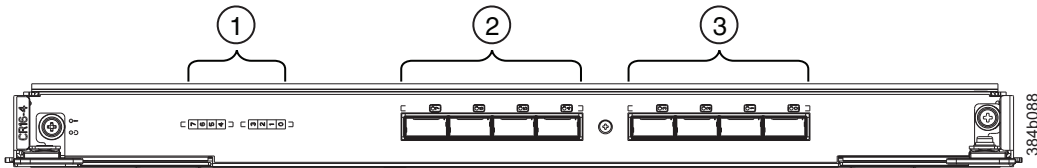

Figure 53. CR16-4 core blade
- Figure 53 shows a CR16-4 core blade